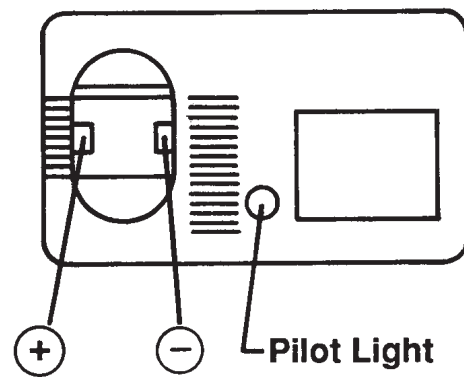

Figure 1
2. Plug the battery cartridge prongs into the corresponding positive and negative terminals indicated on the battery charger. See Figure 1.